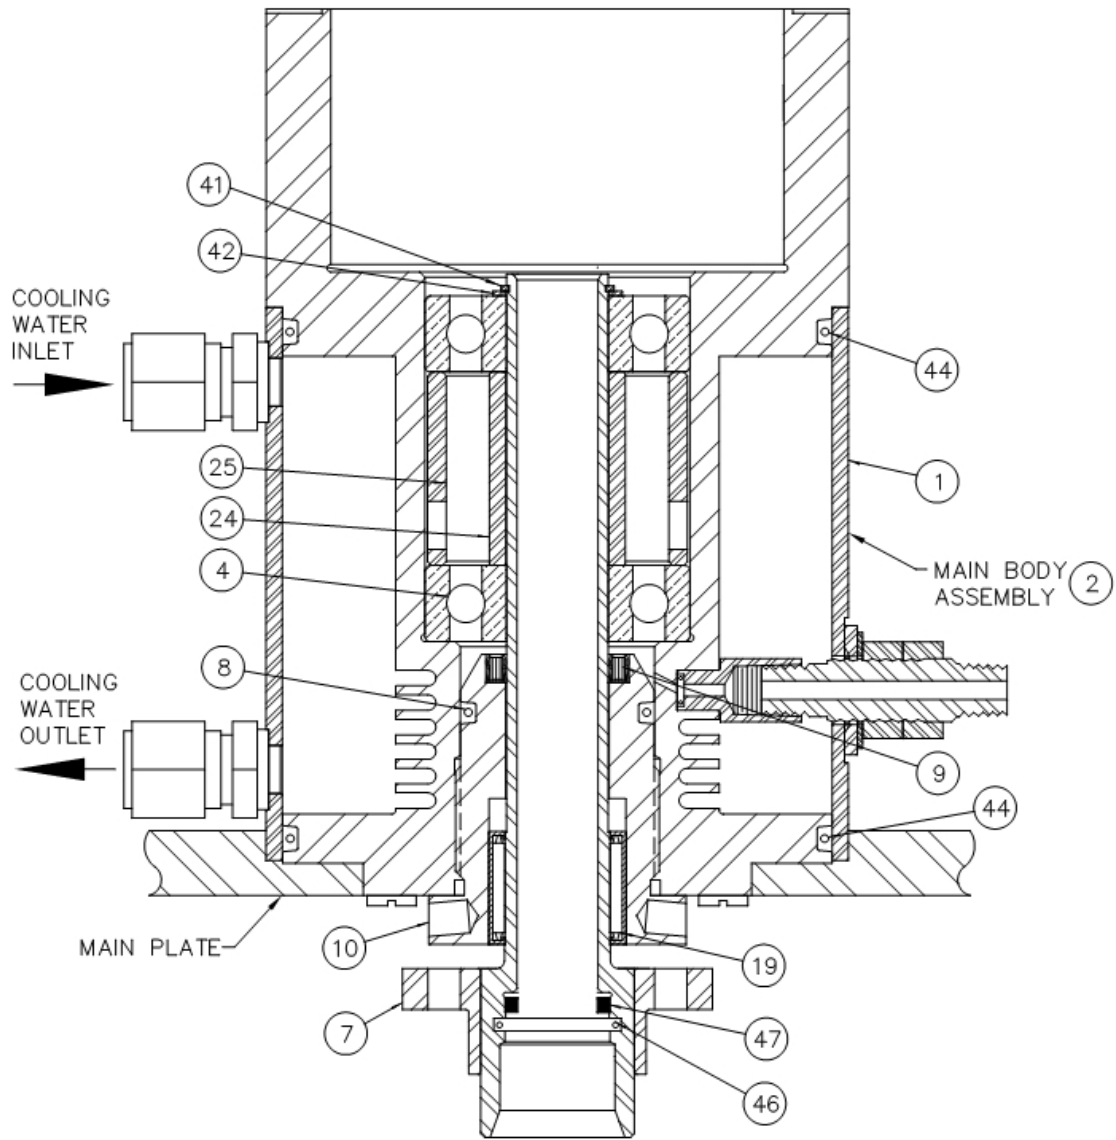

Fig. 6
- D. REMOVAL AND/OR REPLACEMENT - SEAL RING - MAIN BEARINGS - NEEDLE BEARING (Refer to Fig. 6)
9. Install the new bearings item [4]. (Refer to Fig. 6). Make sure the wide side of the outer race on both bearing is inserted first.